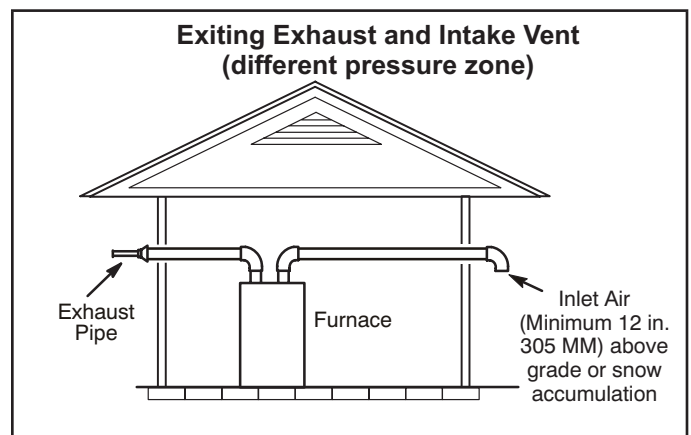
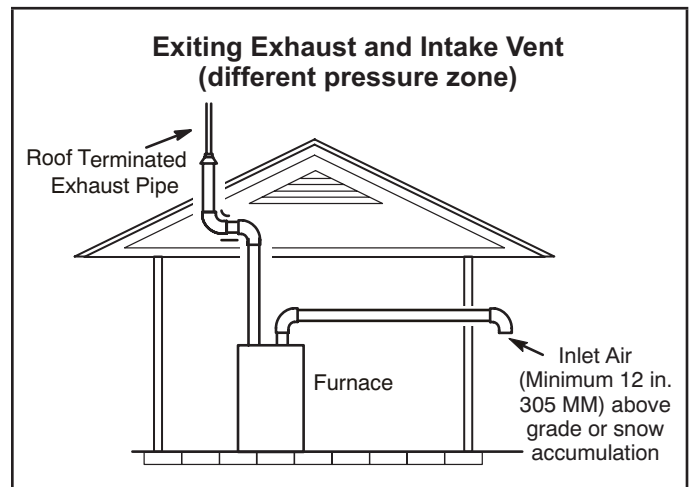

FIGURE 26
FIGURE 27
- 1 - Intake and exhaust terminations are not required to be in the same pressure zone. You may exit the intake on one side of the structure and the exhaust on another side (figure 26). You may exit the exhaust out the roof and the intake out the side of the structure (figure 27).